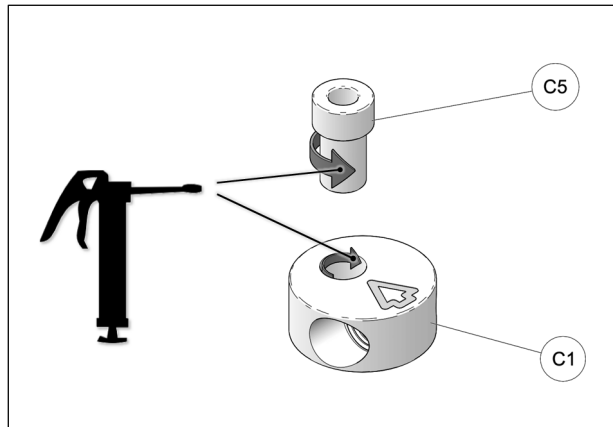

Fig. 17
10. At assembly, apply grease evenly all around step spacer bushing (**C5**) and in hole of aluminum disk (**C1**). See Fig. 17